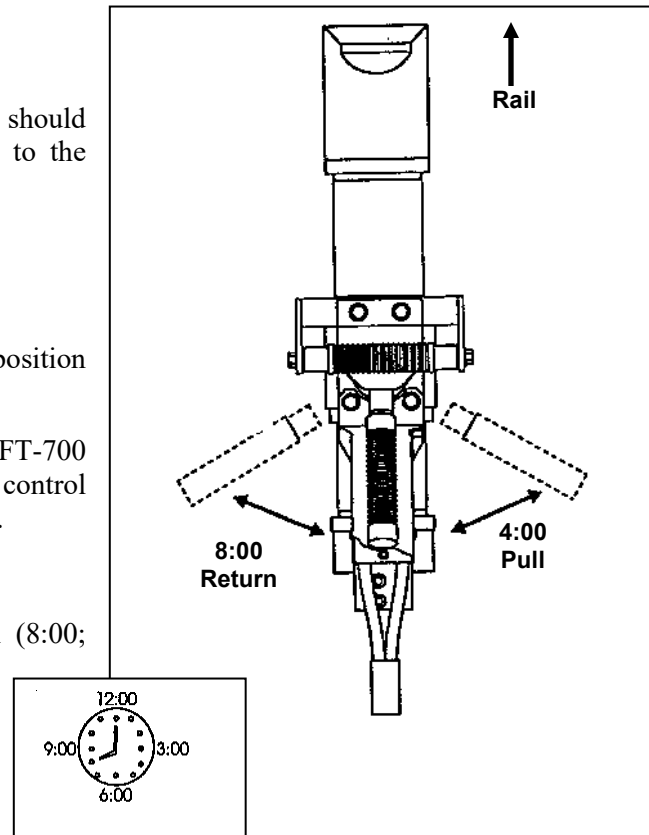
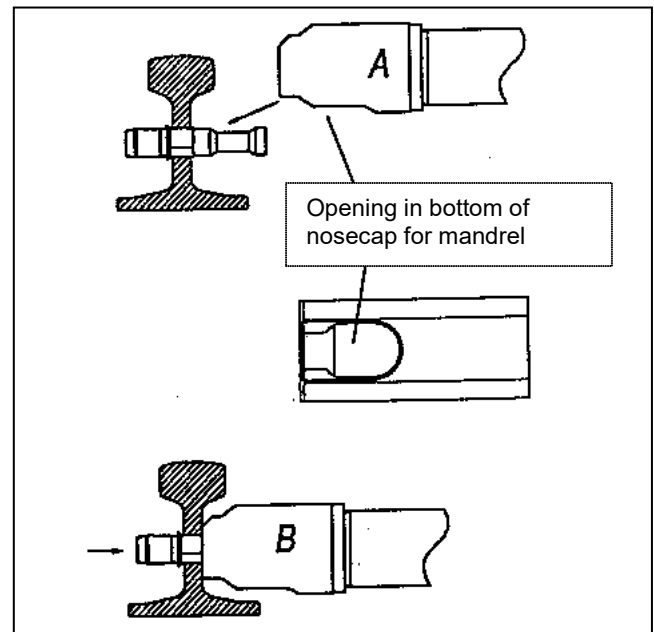

Figure 3.1-1
Figure 3.2-1
4. Place puller control valve in neutral, center position (6:00; Figure 3.1-1).
7. Move puller control valve to return position (8:00; Figure 3.1-1).
8. When puller jaw has fully returned (forward position), place control valve in neutral position (6:00; Figure 3.1-1).
1. With proper mandrel and sleeve inserted in hole, install puller nose cap over mandrel from above (Figure 3.2-1, piece A).
2. Activate puller to pull mandrel through the sleeve in the hole by putting control valve in 4:00 position (Figure 3.2-1, piece B). Refer to Figure 3.1-1 for control valve position.